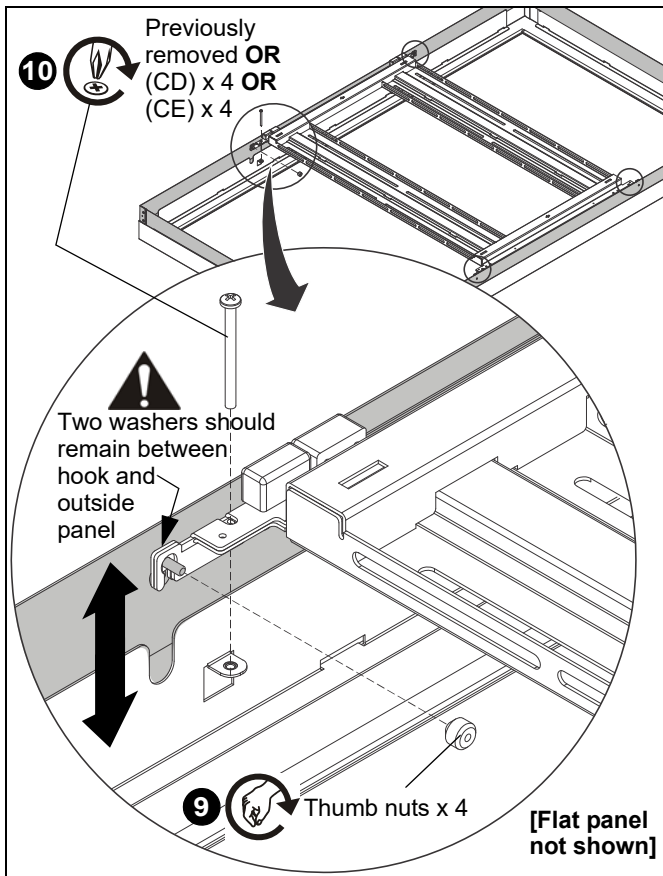

Figure 9
NOTE: The outer frame depth may be adjusted between 3-1/2" to 5-1/2" to make room for a variety of different flat panel thicknesses. (See Figure 9)
- The 4 Phillips screws removed in Step 1 can be replaced with four 10-24 x 2-3/4" Phillips screws (CD) **OR** four 10-24 x 3-1/2" Phillips screws (CE) for larger depth adjustments. (See Figure 9)
9. Tighten thumb nuts over threaded studs in four locations on the hinged frame. (See Figure 9)
10. Replace and fasten four Phillips screws which were removed in Step 1, **OR** replace the removed screws with four 10-24 x 2-3/4" Phillips head screws (CD), **OR** four 10-24 x 3-1/2" Phillips head screws (CE) to allow for a larger depth adjustment of the outer frame. (See Figure 9)